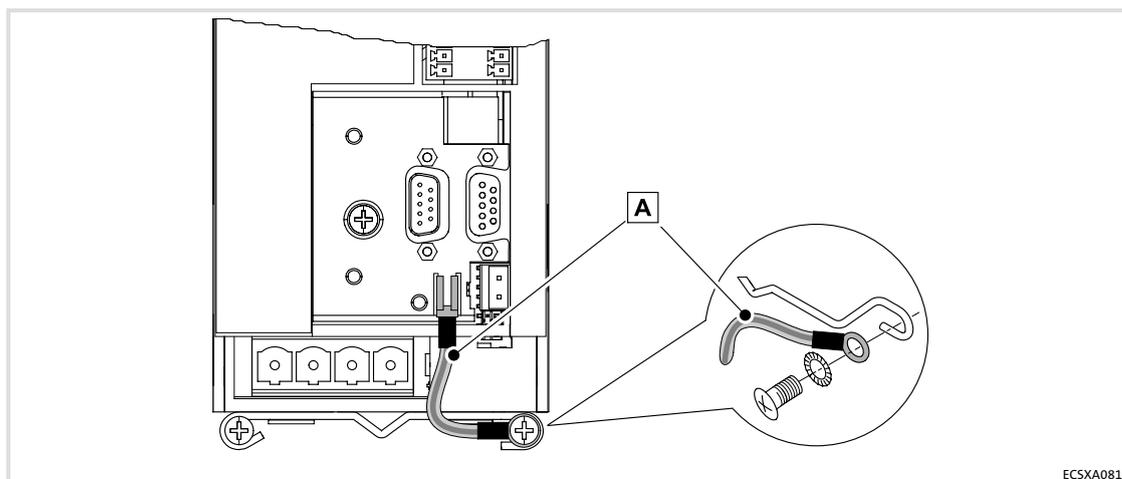

Fig.4-4 Functional earth conductor at the axis module ECSDS...
4. Fasten the clamps together with the supplied functional earth conductor (see Fig.4-4).
7. Connect functional earth conductor with the axis module (see Fig.4-4).